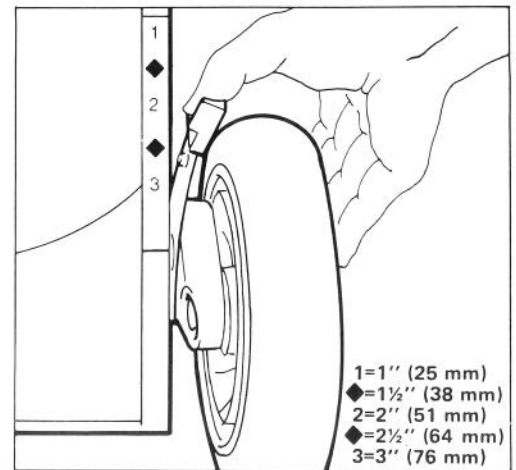

Figure 14
2. For easier adjustment, lift housing up so wheel is off ground. Squeeze adjusting lever toward wheel and move them to desired setting (Fig. 14). Assure pin on adjusting lever engages notch in housing. Adjust all wheels to the same setting.